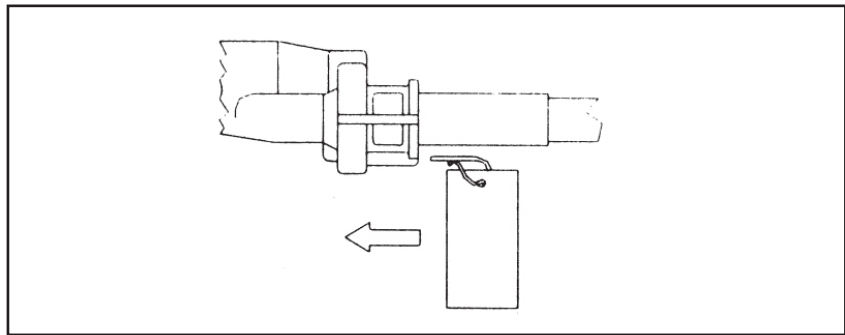

Figure 3.
STEP 3. Replace pin as shown in Figure 3, making sure that it is fully seated. **DO NOT REMOVE TAG FROM PIN.**